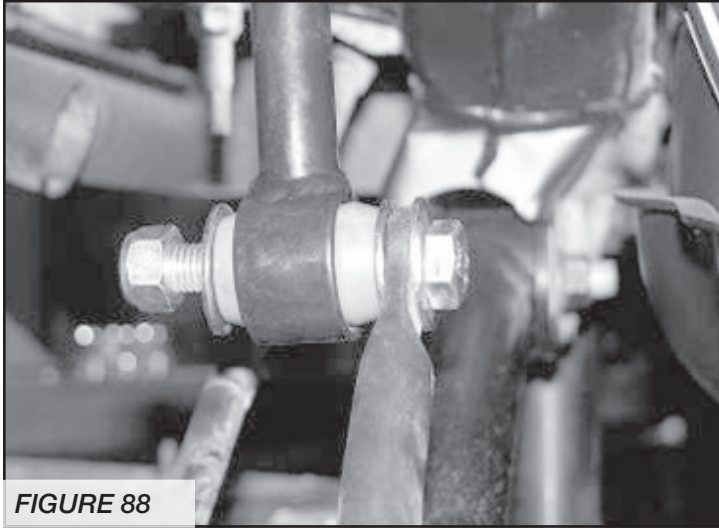

FIGURE 88
56. Locate the supplied 12mm bolt, nut, and large washers. Place a washer onto the bolt and insert into the sway bar from the inside of the bar. Follow with another large washer. Mount the bar to link and follow with another large washer and the C-lock nut. Tighten the lower bolt first and then the upper nut. Only tighten enough to get the bushings to bulge. **SEE FIGURE 88**